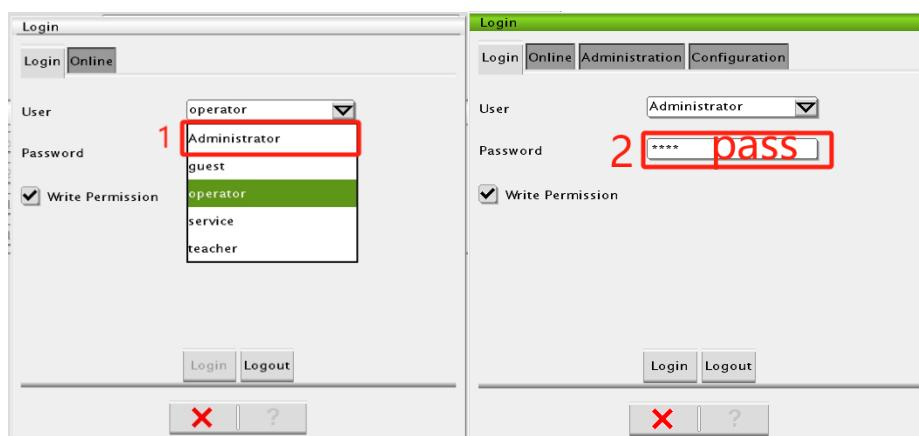
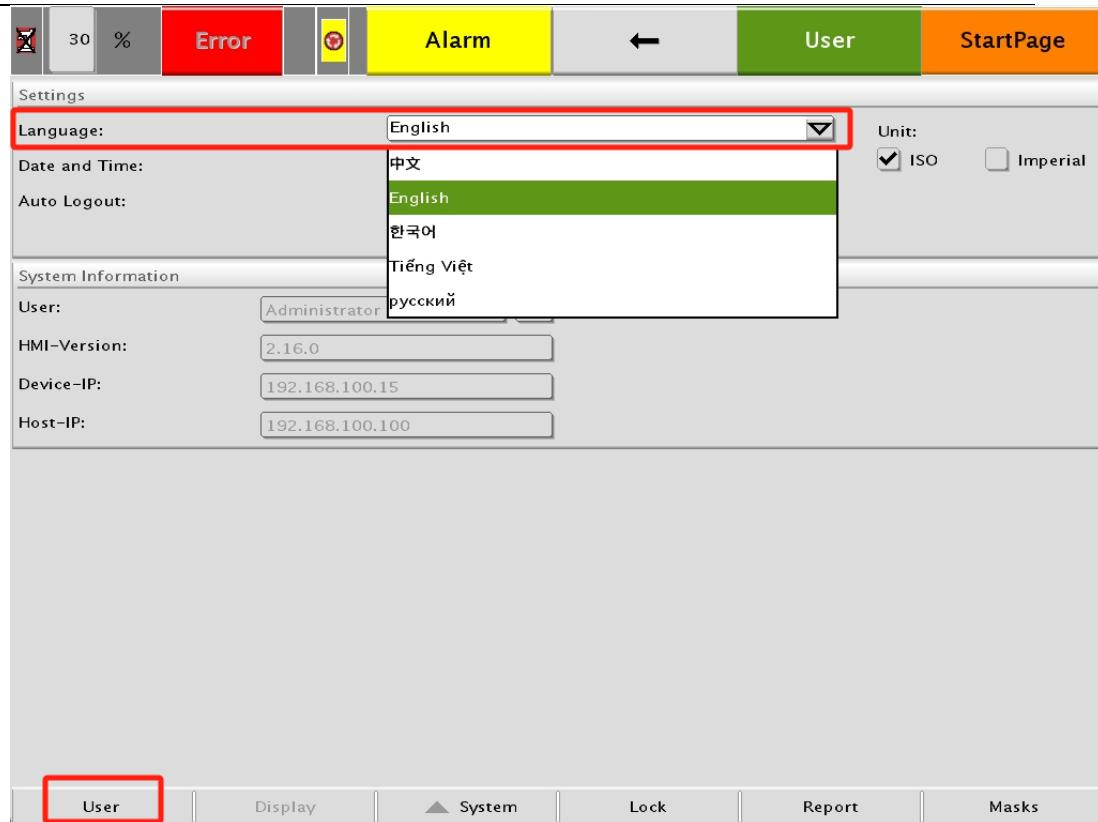

Figure 4
Figure 5
⑦User: (1) You can view the current privilege level or switch the privilege level, such as switching the highest level of administrator "Administrator", in **Figure 5**, bottom left click on User pop-up window in **Figure 4** below, you need to enter the password, the password is pass.(2) You can change the language settings, as shown in **Figure 5** below.